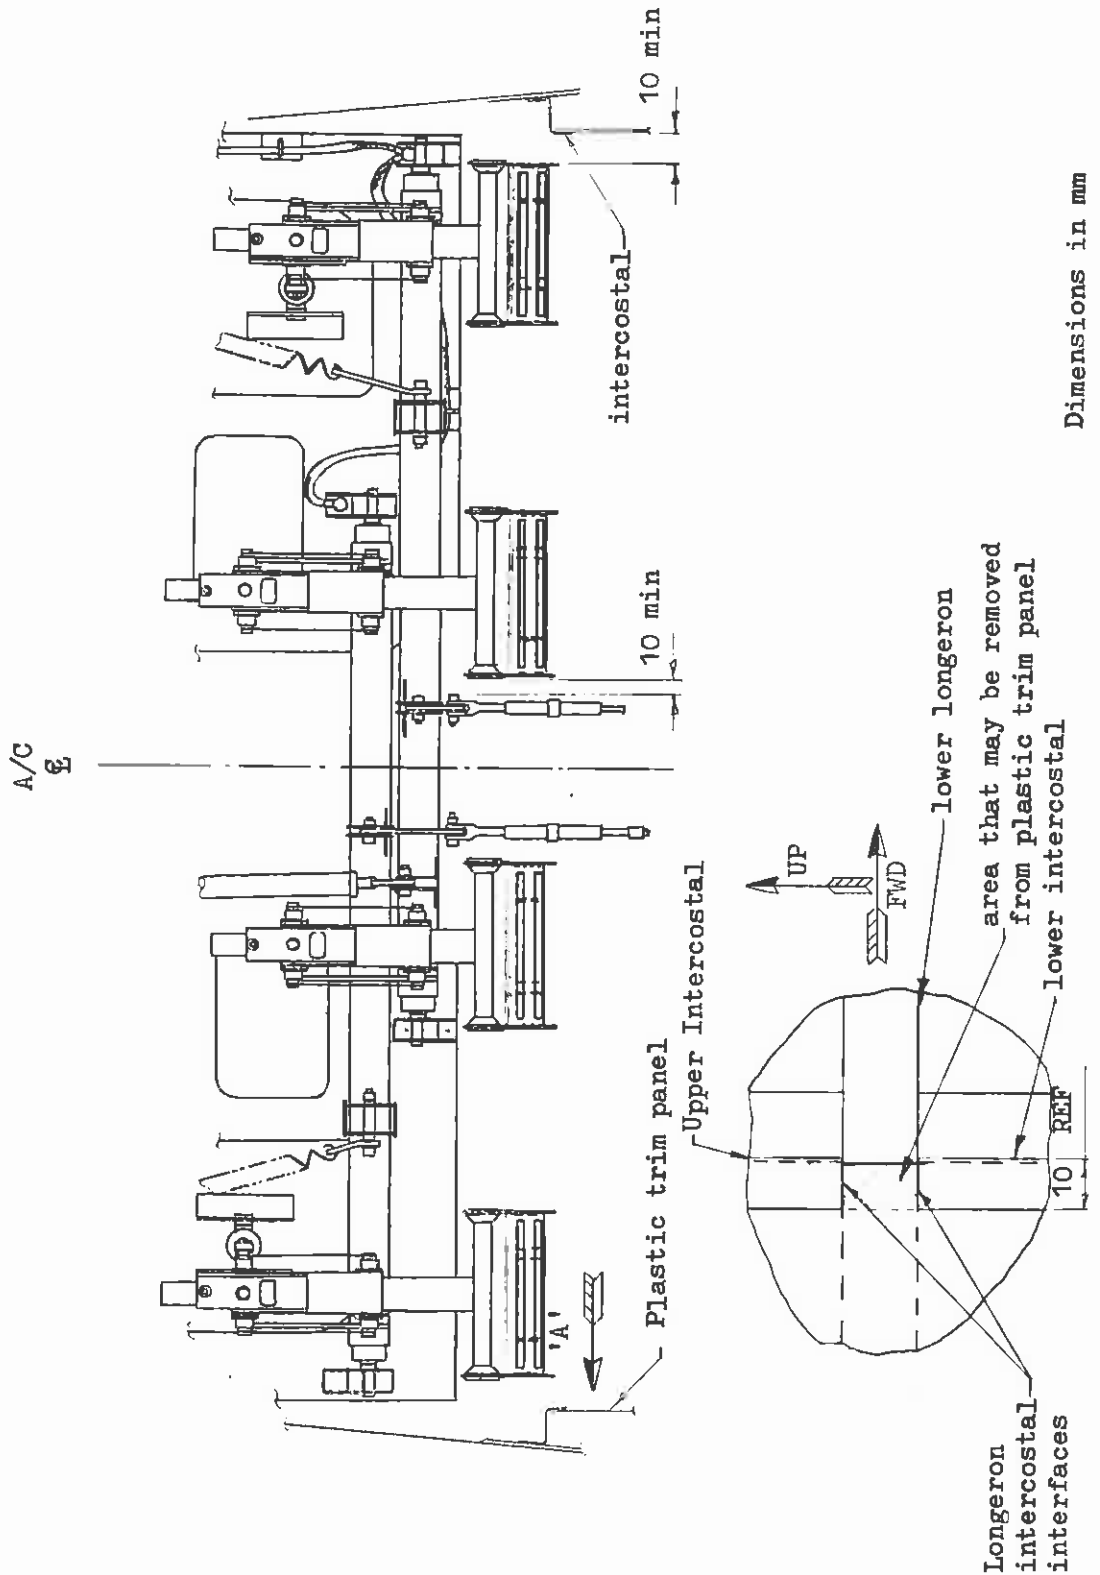

FIGURE 1
3.1 Inspection (Ref. Fig. 1, page 3).
3.2 Inspection (Ref. Fig. 1 Page 3)
3.2.1 Check that the plastic trim panel is under intercostal ideally by 10mm, ref. view on Arrow 'A' Fig.1.